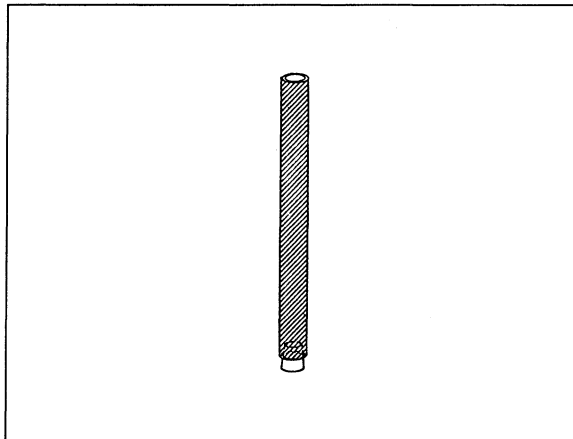

Fig. 4 ► 8.
9. Fill the plastic pipe you sealed at one end with water, right up to the brim ► Fig. 4.